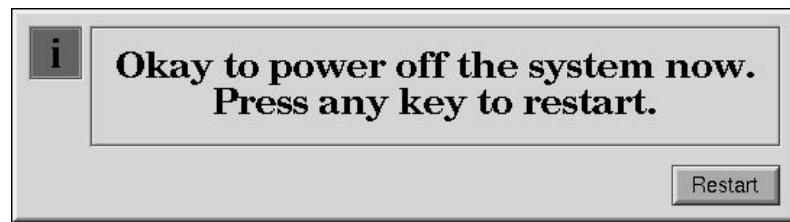

Figure 8-2 Okay to Power Off Notifier
3. After a few seconds you see the notifier shown in Figure 8-2. At this point you can power off the system by pressing the power button.